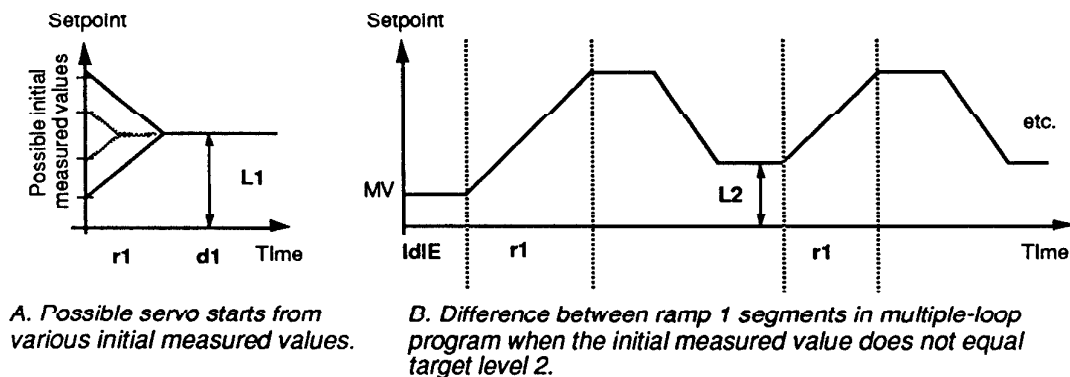

Figure 6.6. Servo start on ramp 1 segment.
- **r1 = ramp 1.** The rate at which the setpoint ramps to the first target level. Adjustable from 0.01 to 99.99 display units per minute. **r1** always starts from the measured value (*servo start*). Servo start is illustrated in Figure 6.6.